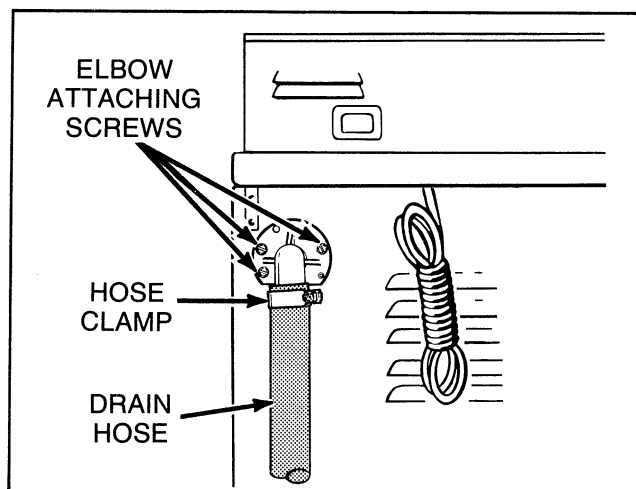

Figure 9
9. DRAIN HOSE ELBOW (Refer to *Figure 9*)